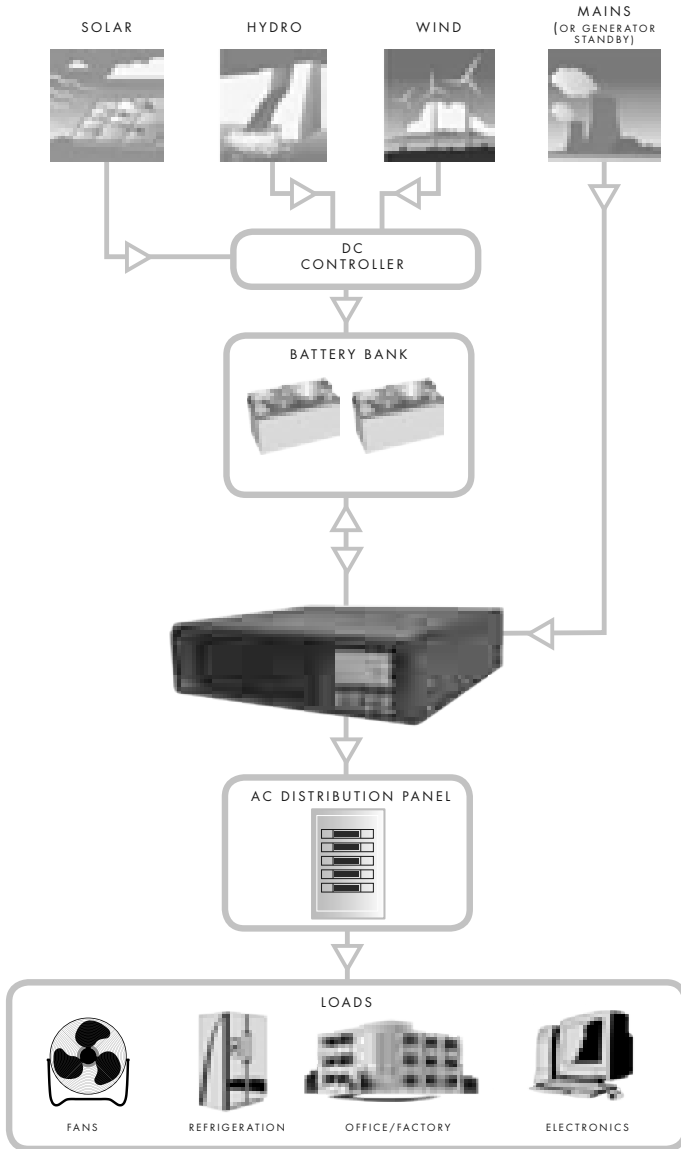

Figure 1-2 Renewable Energy Source
- Renewable Energy Source and a Generator, see figure 1-2